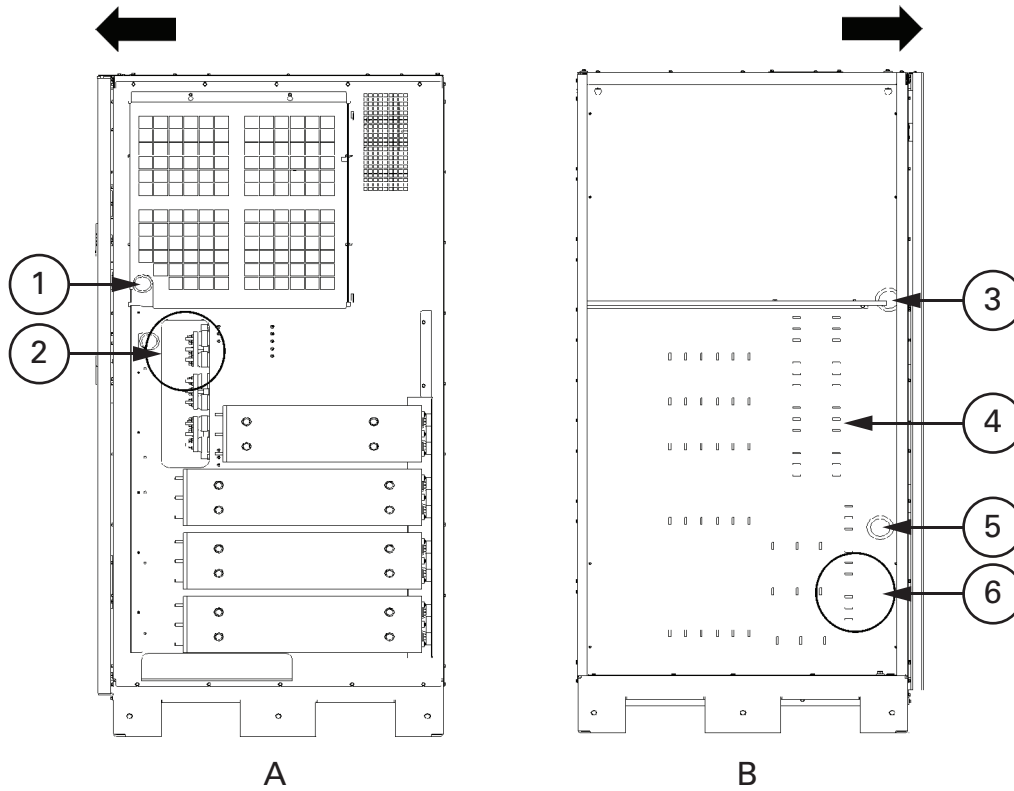

Figure 4-10. UPS inter-cabinet interface harness locations
Four intercabinet interface wiring harnesses are supplied coiled against the right side panel of the ISBM section (see A in Figure 4-10).
15. In the ISBM section (see A in Figure 4-10), locate the long coiled wiring harnesses with the J50, J51, J61 and J70 connectors attached. Remove the wire ties securing the harnesses and uncoil the harnesses.
16. Locate the mating P50 connector in the UPM section wireway (see B in Figure 4-10) and connect the P50 connector to the J50 connector.
17. Locate the mating P51 connector in the UPM section wireway (see B in Figure 4-10) and connect the P51 connector to the J51 connector.
18. Locate the mating P61 connector in the UPM section wireway (see B in Figure 4-10) and connect the P61 connector to the J61 connector.
19. Locate the mating P70 connector in the UPM section wireway (see B in Figure 4-10) and connect the P70 connector to the J70 connector.
Intercabinet interface wiring harnesses are supplied coiled against the left side panel of the UPM section (see B in Figure 4-10).
20. In the UPM section (see B in Figure 4-10), locate the coiled RJ45 CAN cable. Remove the wire ties securing the harnesses to the interior left side panel of the UPM section. Route the harnesses through the round wiring access in the right side panel of the ISBM section (see B in Figure 4-10).